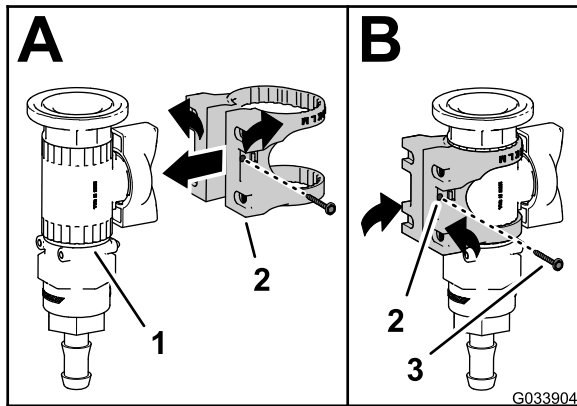

Figure 11
1. Assemble the valve mount onto the control valve as shown in A of Figure 11.
2. Secure the valve mount to the control valve with the flange-head screw (#6), and tighten the screw by hand (B of Figure 11).